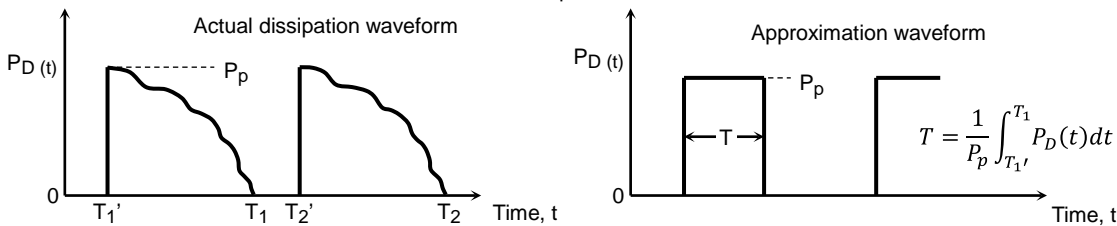

Figure 1.5 Approximation of a Power Loss Waveform
In practice, $P_{ch}(t)$ may not be a rectangular wave for applications of power MOSFETs. In such cases, approximate the power loss waveform as a rectangular wave as shown in Figure 1.5 and use Equation (8) to estimate T_{chpeak} .